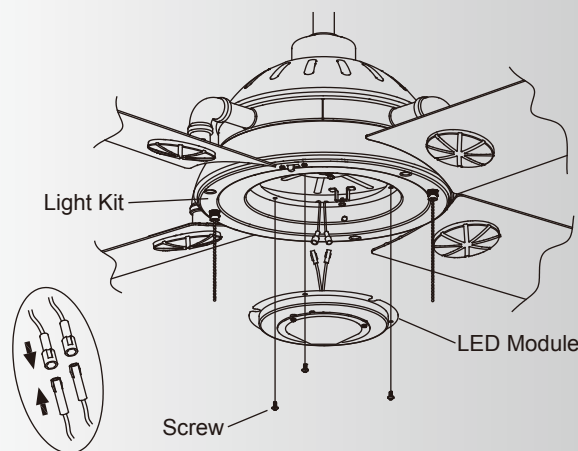

Fig. 20
**Step 4.** Hold the LED module close to the light kit. Connect the WHITE wires from the light kit and LED module by pushing the connectors together. Follow the same procedure with the BLACK wires. Align the holes on the LED module and light kit and securely tighten with three screws in hardware bag. (Fig. 20)